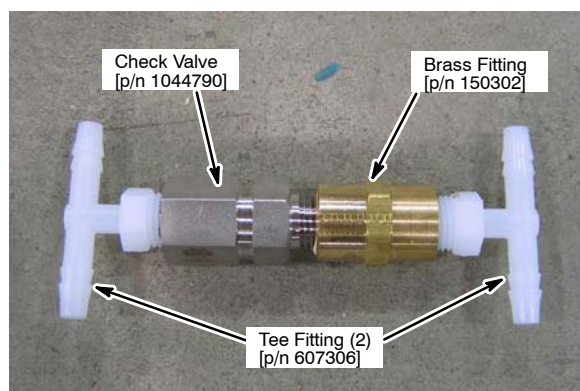

Fig. 22
4. Assemble the check valve assembly as shown (Figure 22). Use a thread sealer tape on all fittings.